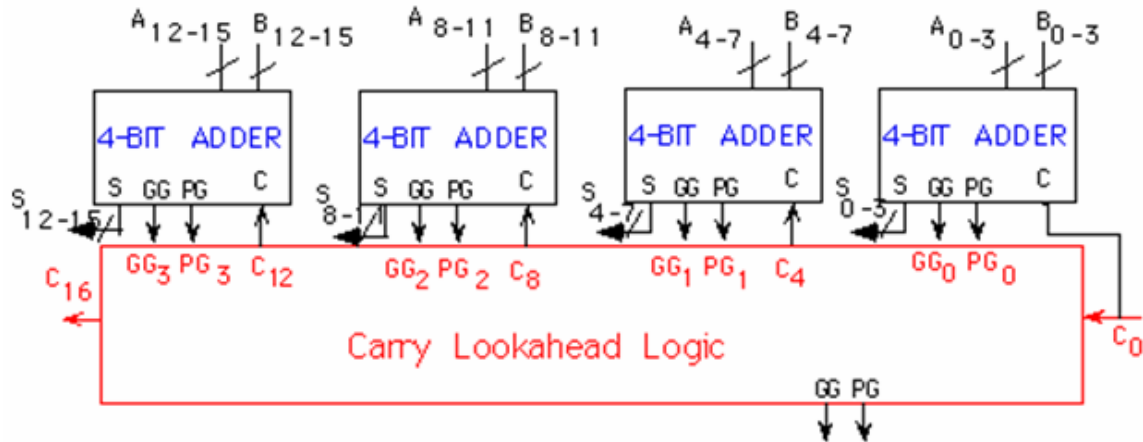

Figure 6: Block diagram of a 16-bit CLA Adder
The disadvantage of the carry-look-ahead adder is that the carry logic is getting quite complicated for more than 4 bits. For that reason, carry-look-ahead adders are usually implemented as 4-bit modules and are used in a hierarchical structure to realize adders that have multiples of 4 bits. Figure 6 shows the block diagram for a 16-bit CLA adder. The circuit makes use of the same CLA Logic block as the one used in the 4-bit adder. Notice that each 4-bit adder provides a group Propagate and Generate Signal, which is used by the CLA Logic block. The group Propagate P_G of a 4-bit adder will have the following expressions,
- You are now ready to create the 16-bit carry-lookahead adder. You may either use the top level schematic or a new macro named MY16CLA. Use the block diagram of Figure 6.